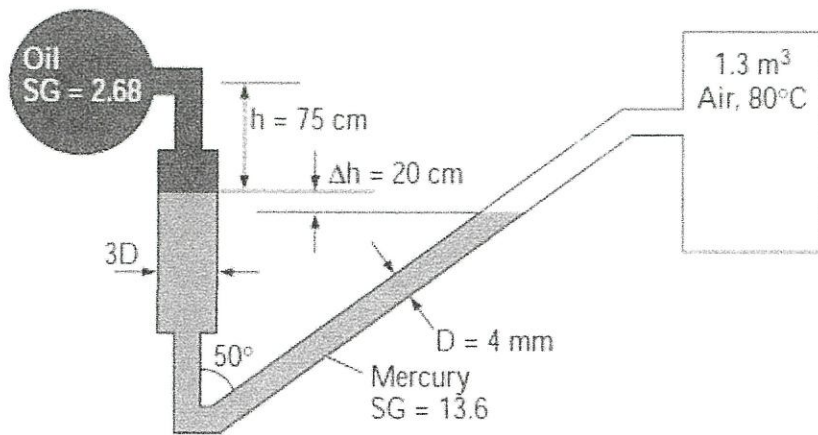

Figure Q1 (c)
- (c) An oil pipeline and a 1.3-m³ rigid air tank are connected to each other by a manometer, as shown in **Figure Q1(c)**. If the tank contains 15 kg of air at 80°C, determine